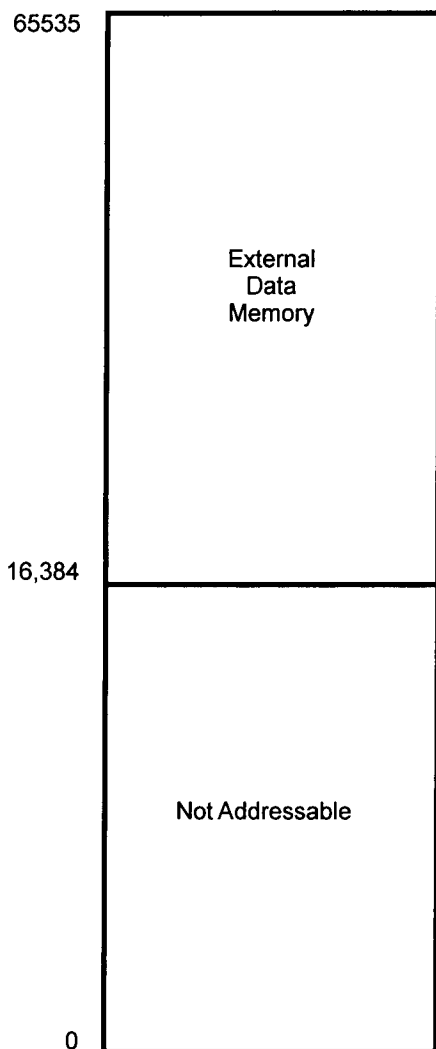

Figure 16. Data Memory Map
**External Memory ( $\overline{DM}$ ).** The Z8 addresses up to 48K bytes (minus Extended Data RAM space) of external memory beginning at address 16384 (Figure 16). External data memory is included with, or separated from, the external program memory space.  $\overline{DM}$ , an optional I/O function that is programmed to appear on P34, is used to distinguish between data and program memory space. The state of the  $\overline{DM}$  signal is controlled by the type of instruction being executed. An LDC opcode references PROGRAM ( $\overline{DM}$  inactive) memory, and an LDE instruction references data ( $\overline{DM}$  active Low) memory.